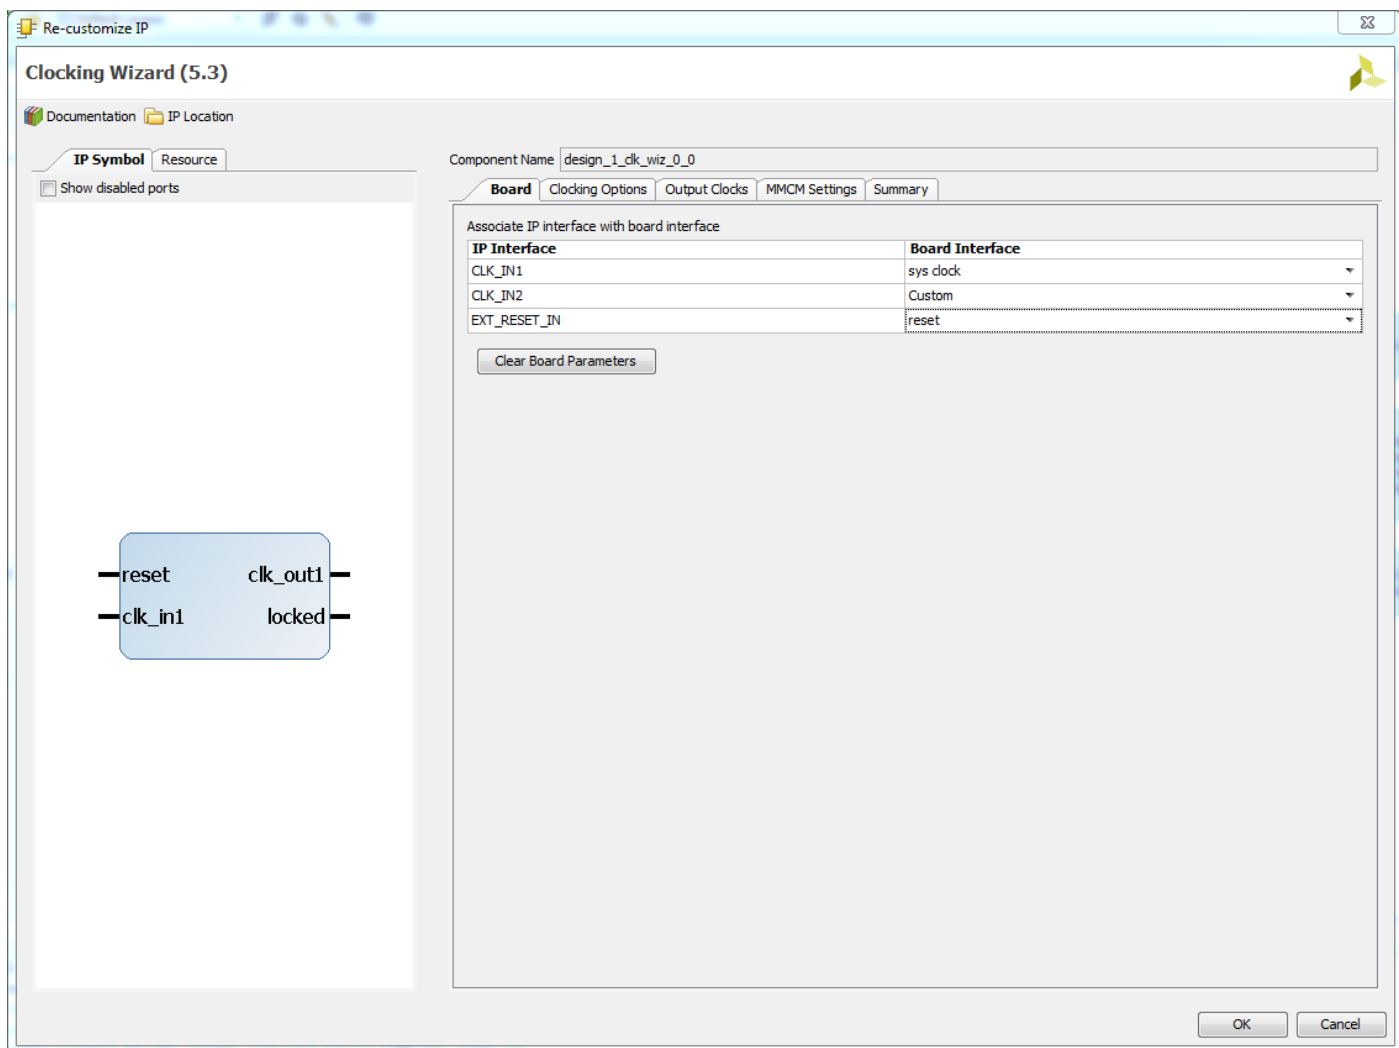

Figure 19: Re-Customize IP Dialog Box
2. Now let us examine the clocking logic. Double click on the **Clocking Wizard** block. This should bring up the **Re-customize IP** dialog block for the Clocking Wizard, as shown in Figure 19. The parameters for all IPs can be inspected and changed via this dialog box, invoked in a similar way.